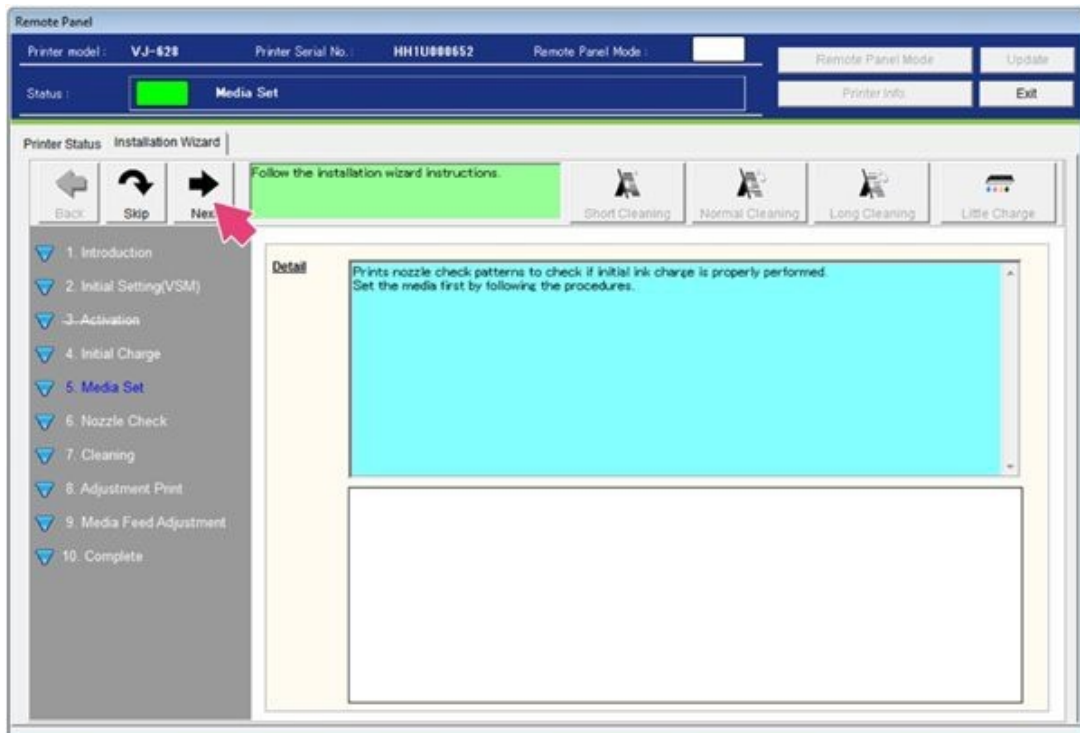

Figure 63
50. The wizard will now guide you through the process of loading the media. Select **Next**. See Figure 63.